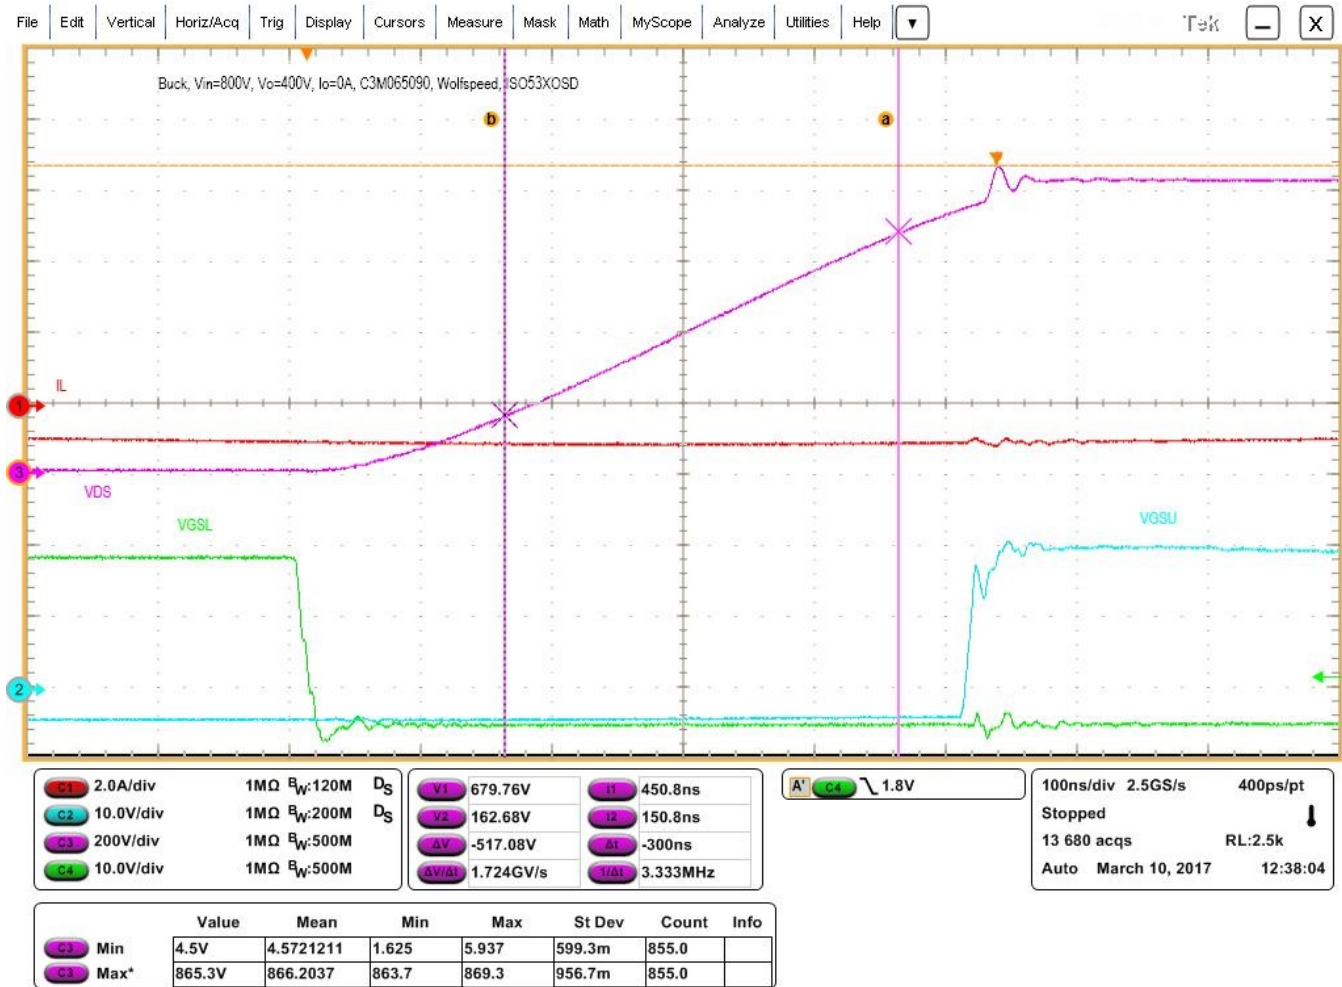
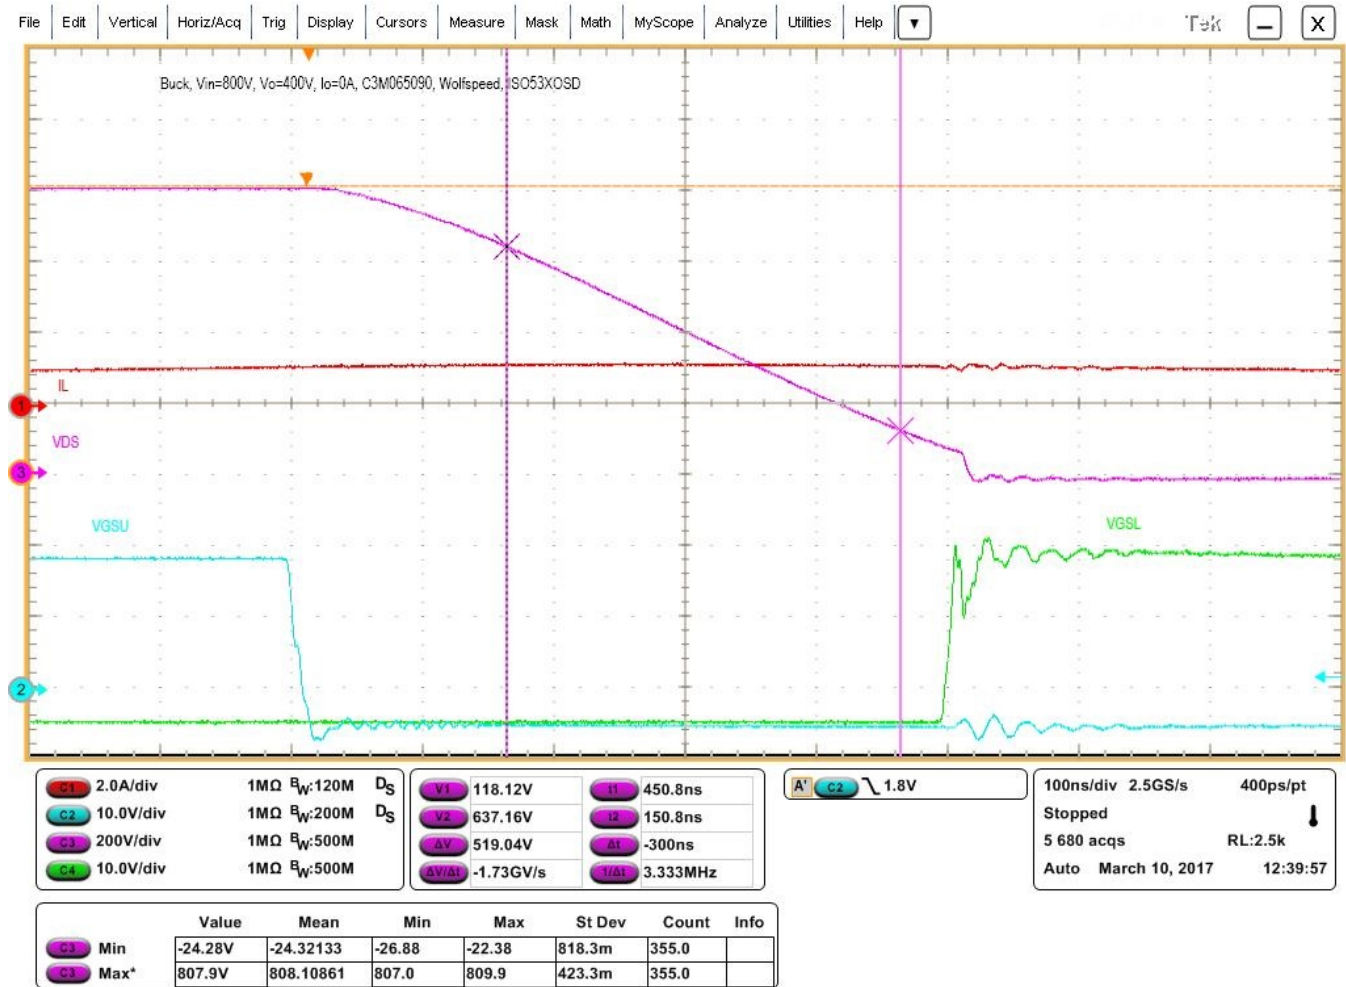

Figure 10. Expanded Soft Switching Waveforms During Vds Rise
Figure 11. Expanded Soft Switching Waveforms During Vds Fall
5. Explore the rising and falling edges of the phase node (V_{ds} of lower FET) by changing horizontal scale to 100 ns/div. as it is shown in Figure 10 and Figure 11. Verify that at 0-A load both edges are under soft switching with minimum ringing.